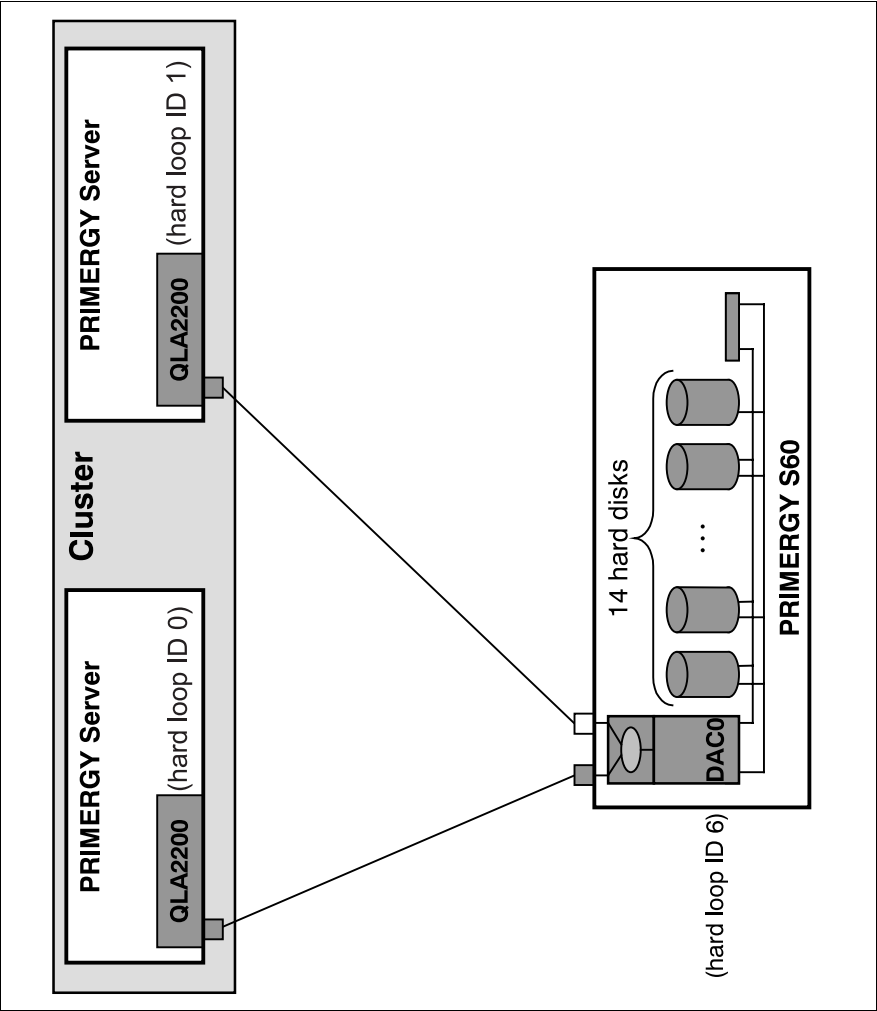

Figure 20: Entry Cluster
- Loop IDs (see figure 20 on page 29)